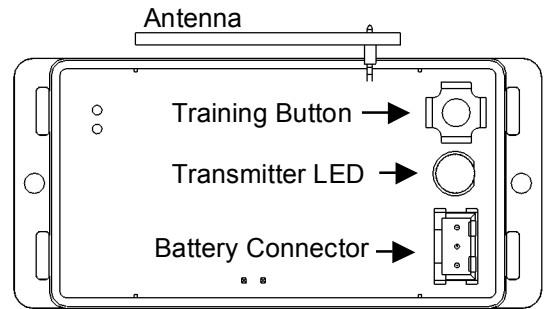

Figure 4: Transmitter Module
3. Open the cover of the transmitter and remove the battery tabs or install the batteries, observe polarity (see Fig 1). The transmitter LED, next to the Transmitter Training Button in Figure 4, should flash approximately once every 10 seconds. (The flash is very quick.)